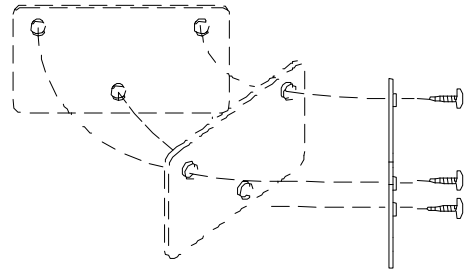

Fig.2
- 2.1.3 Fasten mounting plate to the wall with enclosed screws, making sure that the screw hole flanges face away from the wall and the smooth surface of the mounting plate is flush with the wall. Show as Fig.2.